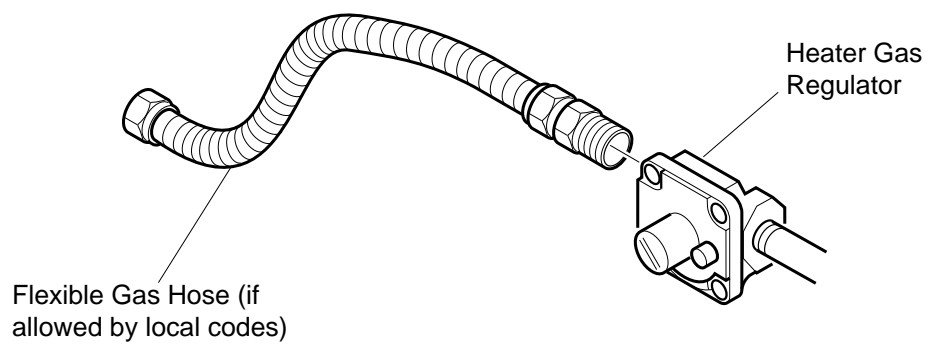

Figure 11 - Attaching Flexible Gas Hose to Heater Gas Regulator
- sealant resistant to propane (LP) gas, not provided
1. Apply pipe joint sealant lightly to male threads of gas regulator. Connect approved flexible gas hose to gas regulator of heater (see Figure 11).